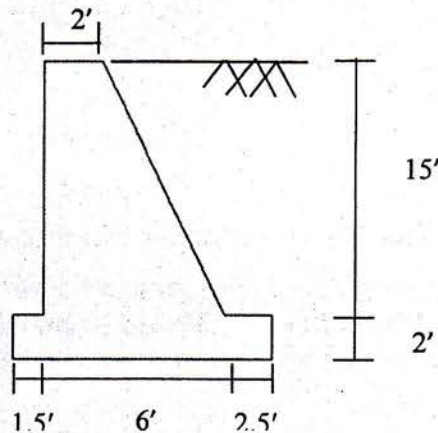

Figure 6
9. (a) Determine the factor of safety against overturning and sliding for the plain concrete gravity retaining wall shown in Figure 6. Concrete unit weight = 145 pcf and earth unit weight = 110 pcf. Given, $\phi = 25^\circ$, $f = 0.45$. 10